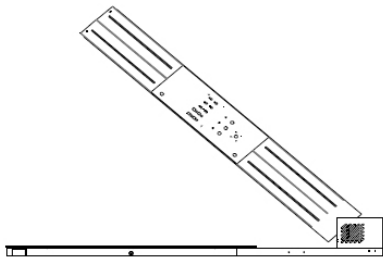

Fig. 2-4a
Step 3 - While lifting the mast, use caution to ensure that wires and connectors are not pinched. (See Fig. 2-4a)